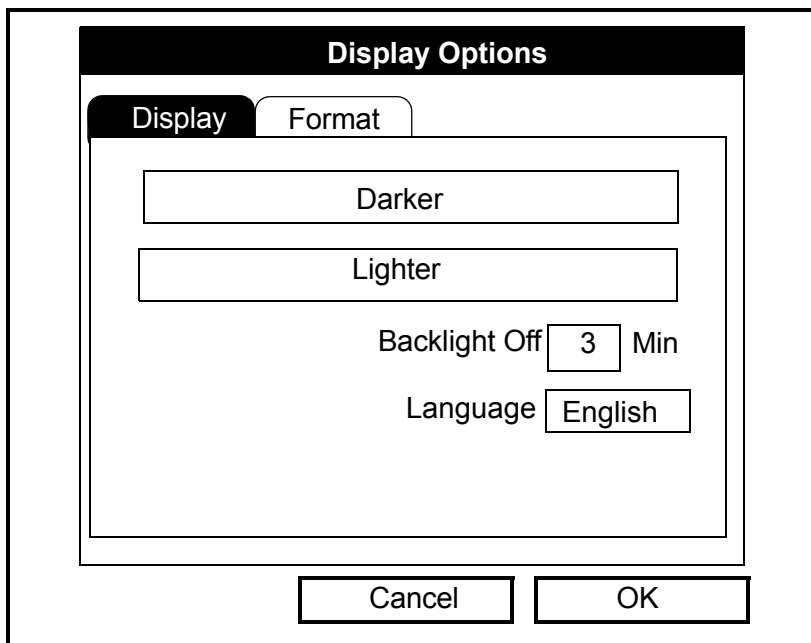

Figure 3-15: Display Tab Window
2. Scroll to the *Contrast* option and press [ENTER]. The *Display Options* window opens (see Figure 3-15 below).
2. Scroll to the *Backlight* option and press [ENTER]. The *Display Options* window opens (see Figure 3-15 on the previous page).
5. Press [F3] (OK) to confirm your entry and return to *Operate Mode*. Otherwise, you can press [F2] (Cancel) or the [ESC] key to exit the menu without confirming your entry.
2. Scroll to the *Language* option and press [ENTER]. The *Display Options* window opens (see Figure 3-15 on the previous page).
4. Scroll to the desired language and press the [ENTER] button to confirm the selection. Then, press [F3] (OK).